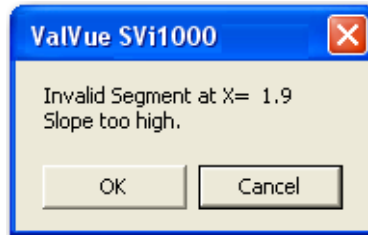

Figure 29 Invalid Segment
2. Enter values in the *Setpoint (%)*/*Position (%)* fields from lowest to highest. If there is too drastic a slope change the Figure 29 dialog appears. Adjust values accordingly.